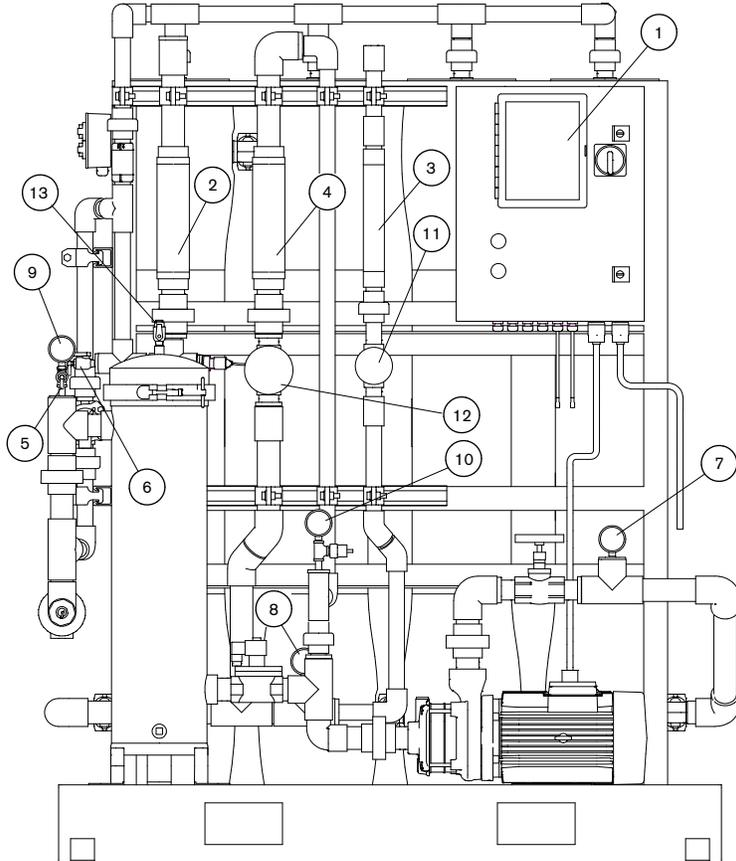

Figure 4
- 18 While purging, adjust the reject throttle valve and adjust to a 50:50 ratio flow through the reject flowmeter compared to the product permeate flowmeter. See **Figure 4**.